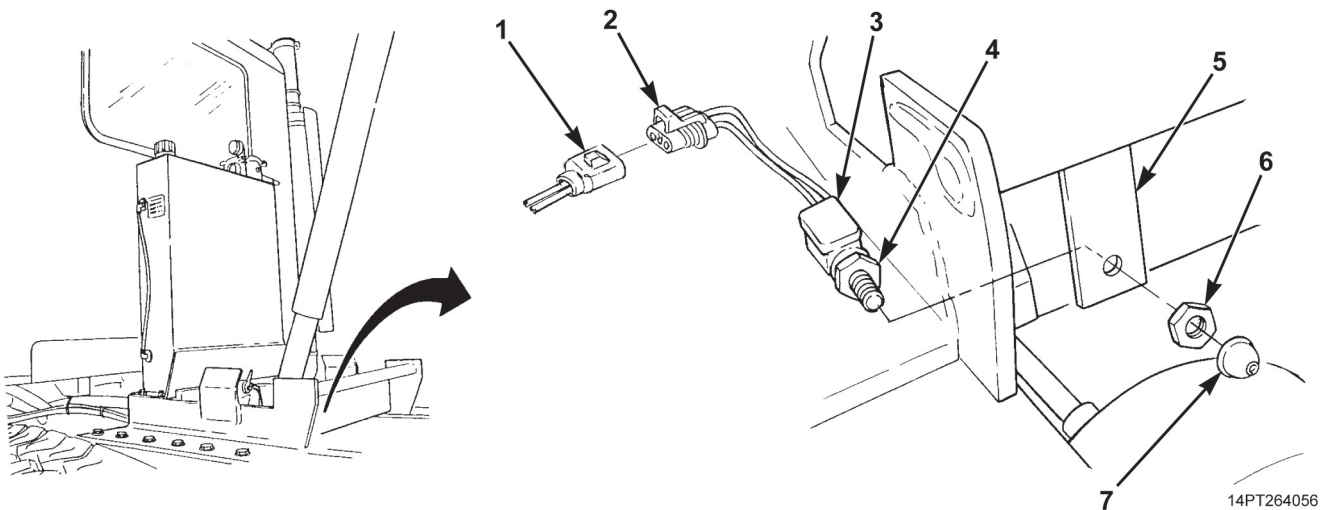

Figure 2. Transport Lock Switch Installation.
1. Install jamnut (Figure 2, Item 4) on transport lock switch (Figure 2, Item 3) in same position as noted during removal.
2. Position transport lock switch (Figure 2, Item 3) through hole in chassis mount (Figure 2, Item 5) and install nut (Figure 2, Item 6) and button (Figure 2, Item 7).
3. Connect transport lock switch connector (Figure 2, Item 2) to wiring harness connector (Figure 2, Item 1).